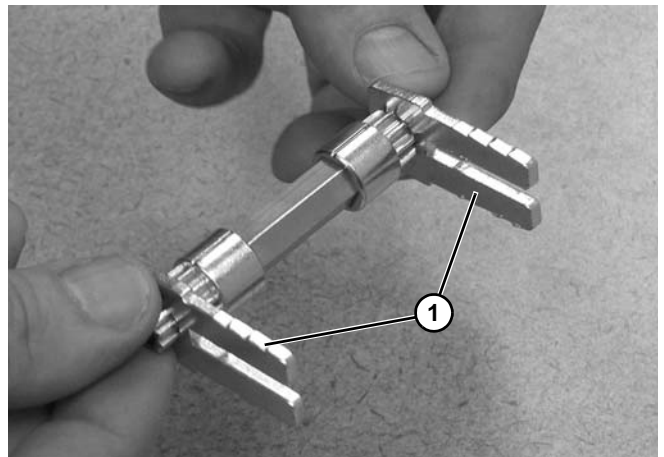

Figure 101
6. Slide on retaining plates (**Figure 101, item 1**).